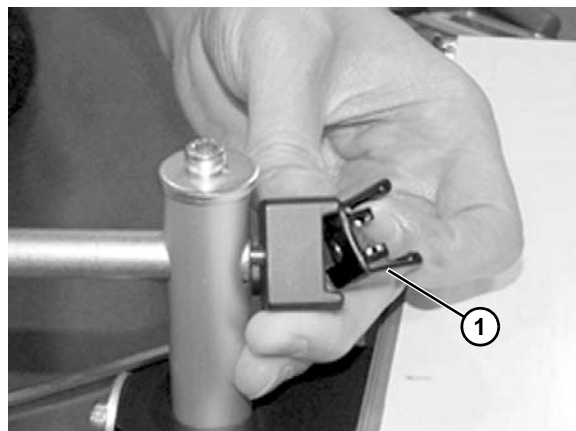

**Figure 33**
2. Tighten screws (**Figure 33, item 1**) making sure t-nut (**Figure 33, item 2**) rotates and engages inside of the t-slot.